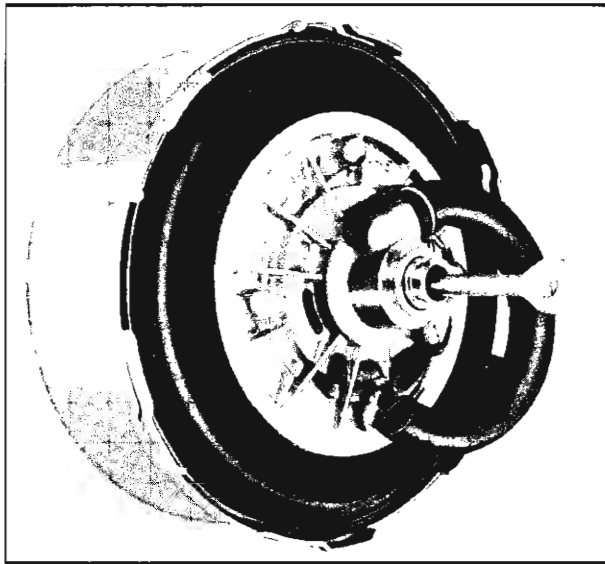

Fig. 50—Power Piston Assembly Installed in Front Shell
24. Place the return spring (4) over the flange in the center of the front shell (5). Place the power piston assembly (3) over the front shell, and insert the master cylinder piston through the return spring (4) into the master cylinder bore. As the piston enters the master cylinder bore, the primary cup must be in place.
25. Press the power piston assembly (3) down and hold it in position while placing the bead of the power piston diaphragm into the recess in the rim of the front shell (5) (also see Figure 50 for reference).